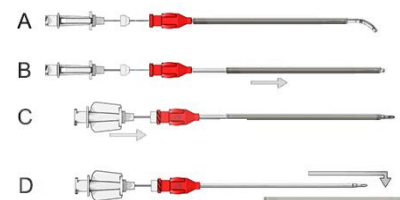

Fig 1
- Carefully remove the catheter and needle assembly from the pouch; Assure the catheter and needle do not rotate and the notch in the needle hub and "4F" on the catheter hub stay aligned (Fig 1 [A]).
- While holding the catheter hub and Straightening Straw, advance Straightening Straw over tip of catheter to straighten the catheter tip (Fig 1 [B]), being careful not to touch catheter shaft or tip.
- Engage needle fully through catheter so that the needle tip is extended beyond the catheter tip (Fig 1 [C]).
- Remove Straightening Straw from the combined catheter and needle assembly, discard Straw (Fig 1 [D]). Re-inspect catheter to identify any damage to the catheter by the needle.